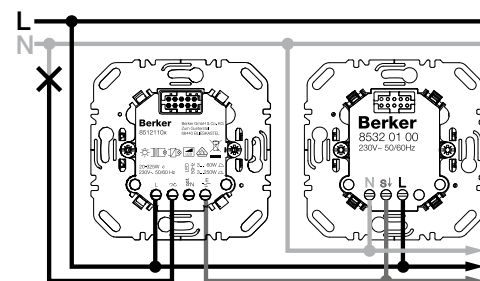

Figure 2: Universal switch insert or push-button dimmer with motion detector extension units
- Connect the motion detector extension unit according to the connection diagram (Figure 2 or 3).